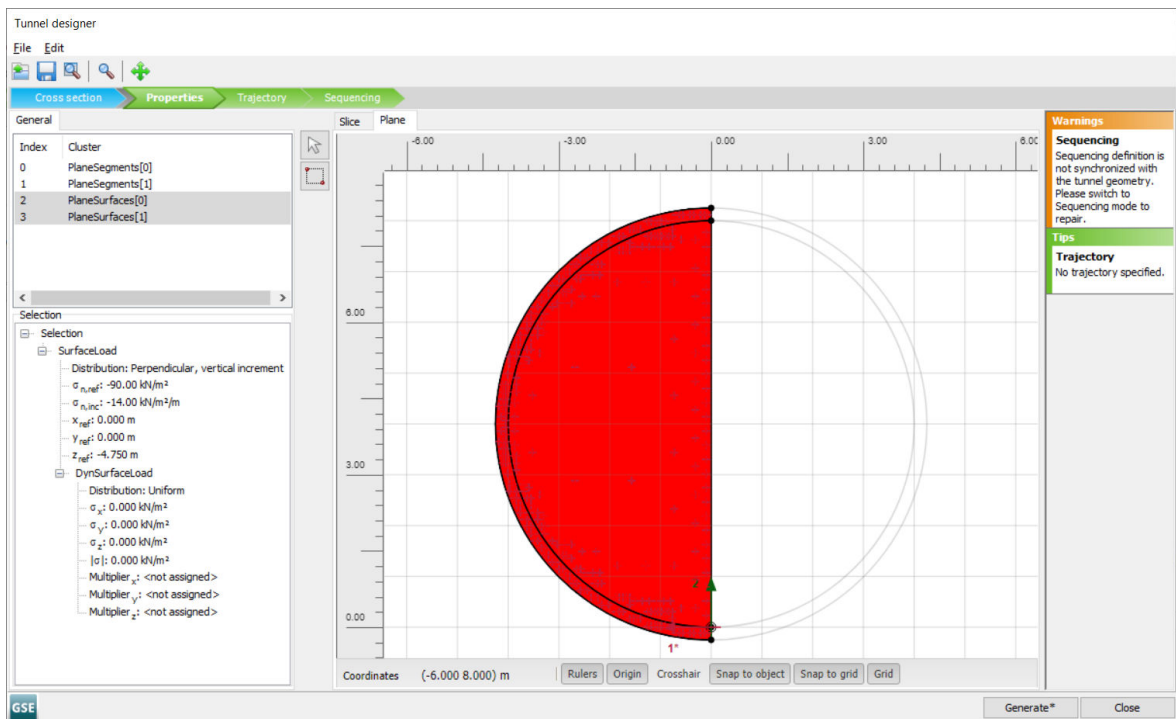

Figure 68: Plane tab Tunnel designer - Definition of TBM face pressure
2. Select both face surfaces (see Figure 68 (on page 95)), followed by pressing right click. Then from the appearing menu select **Create > Create surface load** to create a surface load on the TBM face.
4. As shown in Figure 68 (on page 95) set: